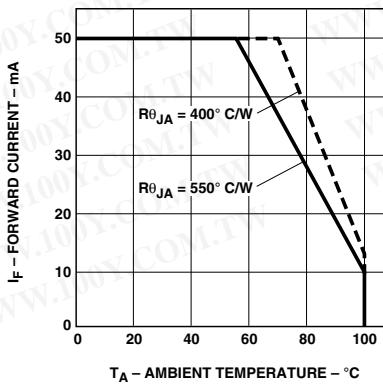

Figure 6. Maximum forward DC current vs. ambient temperature. Derating based on  $T_{jMAX} = 110^\circ\text{C}$ .
- Derate linearly as shown in Figure 6.